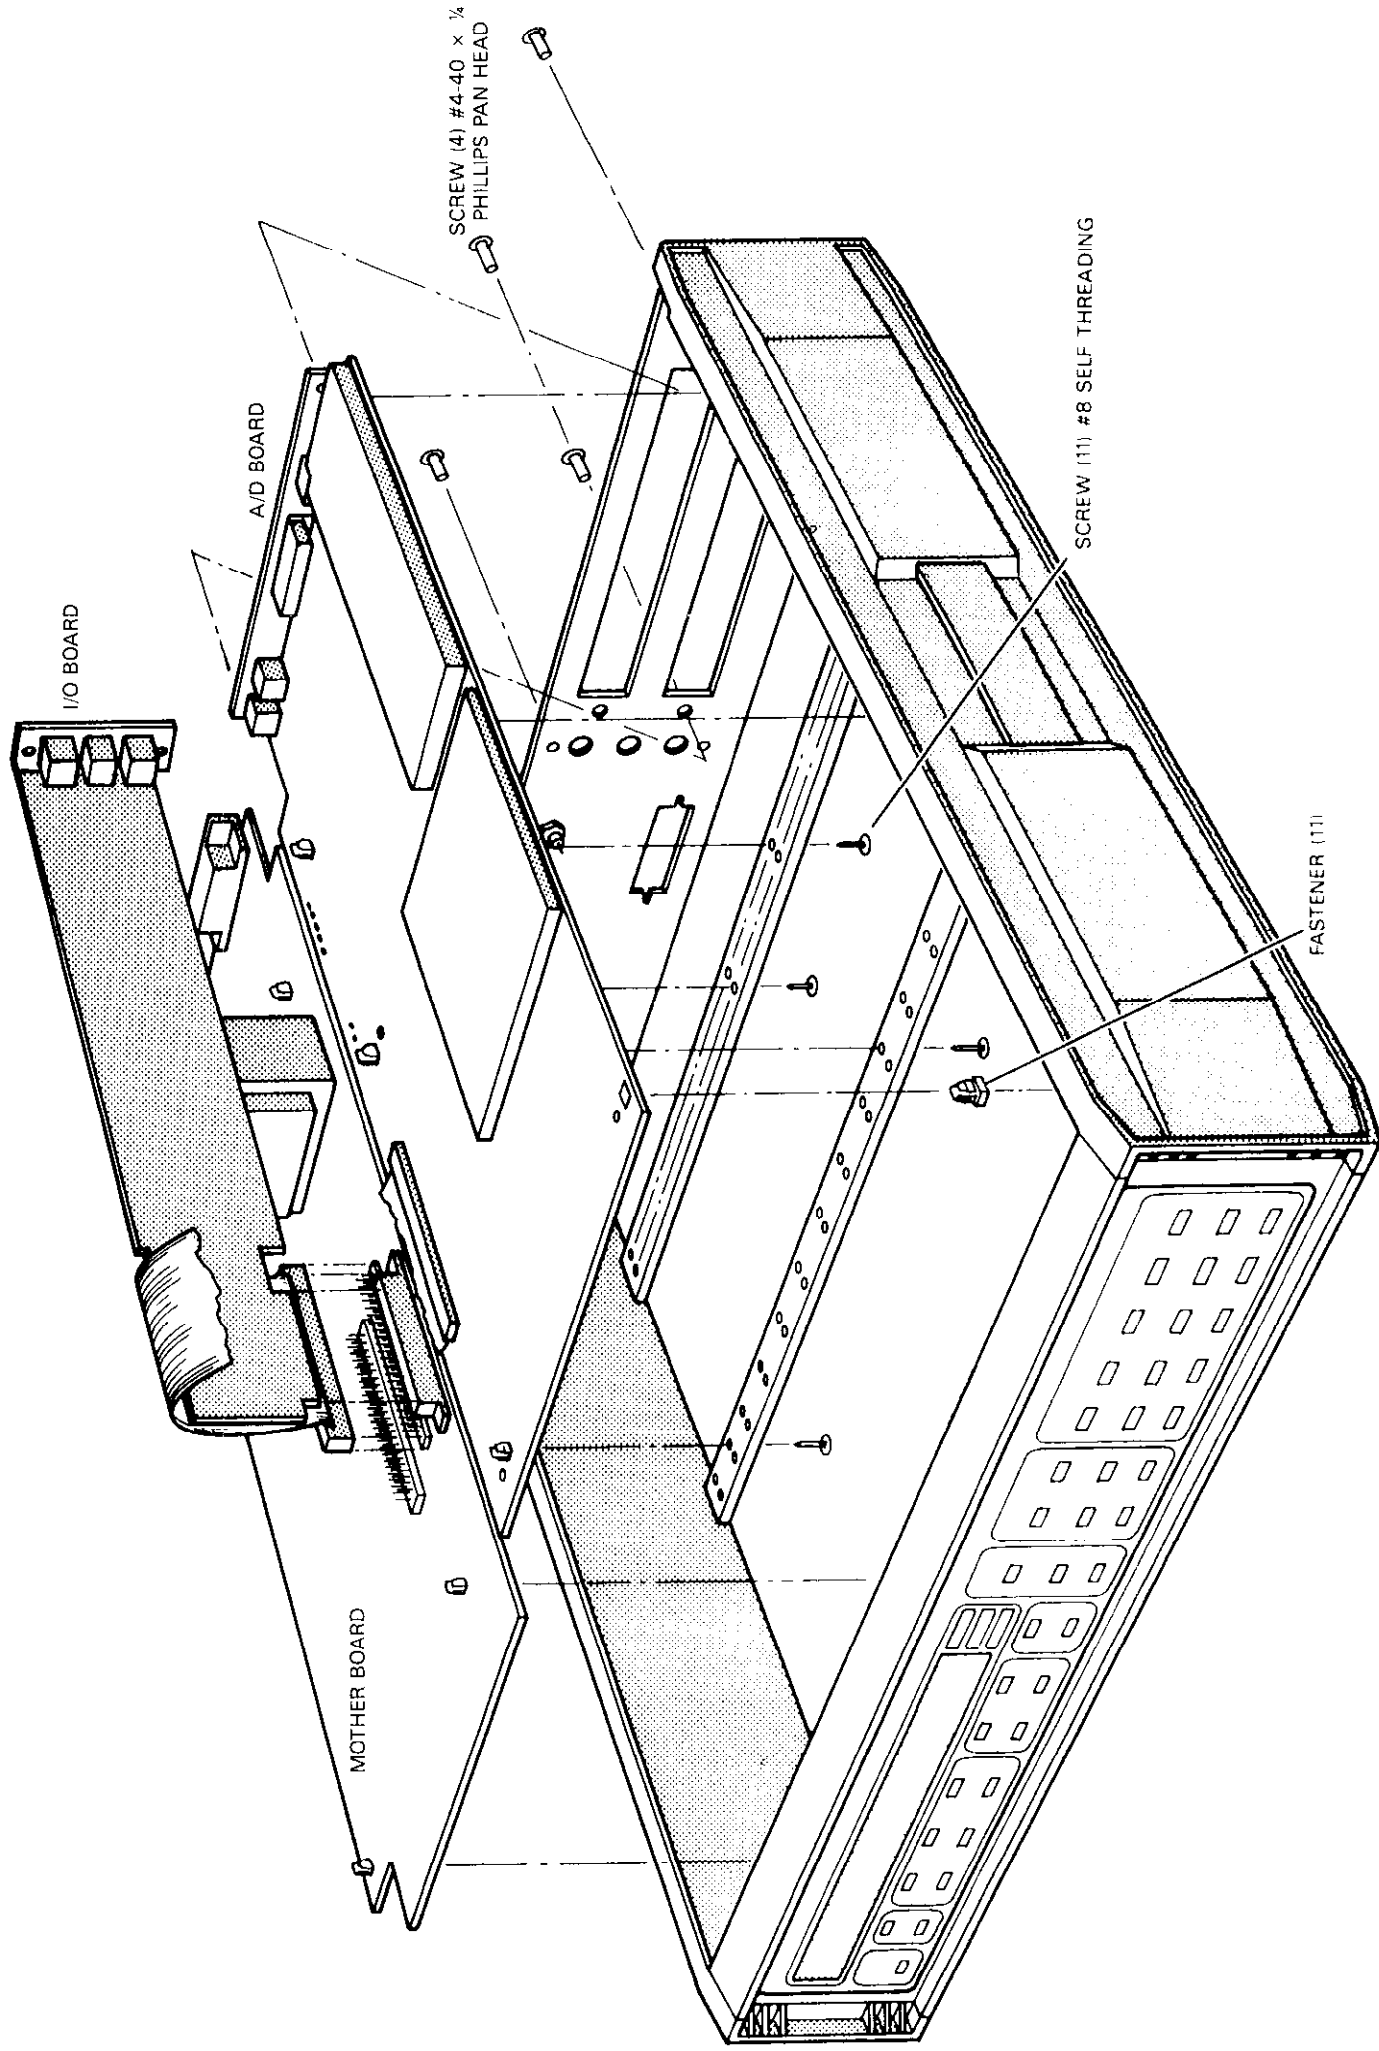
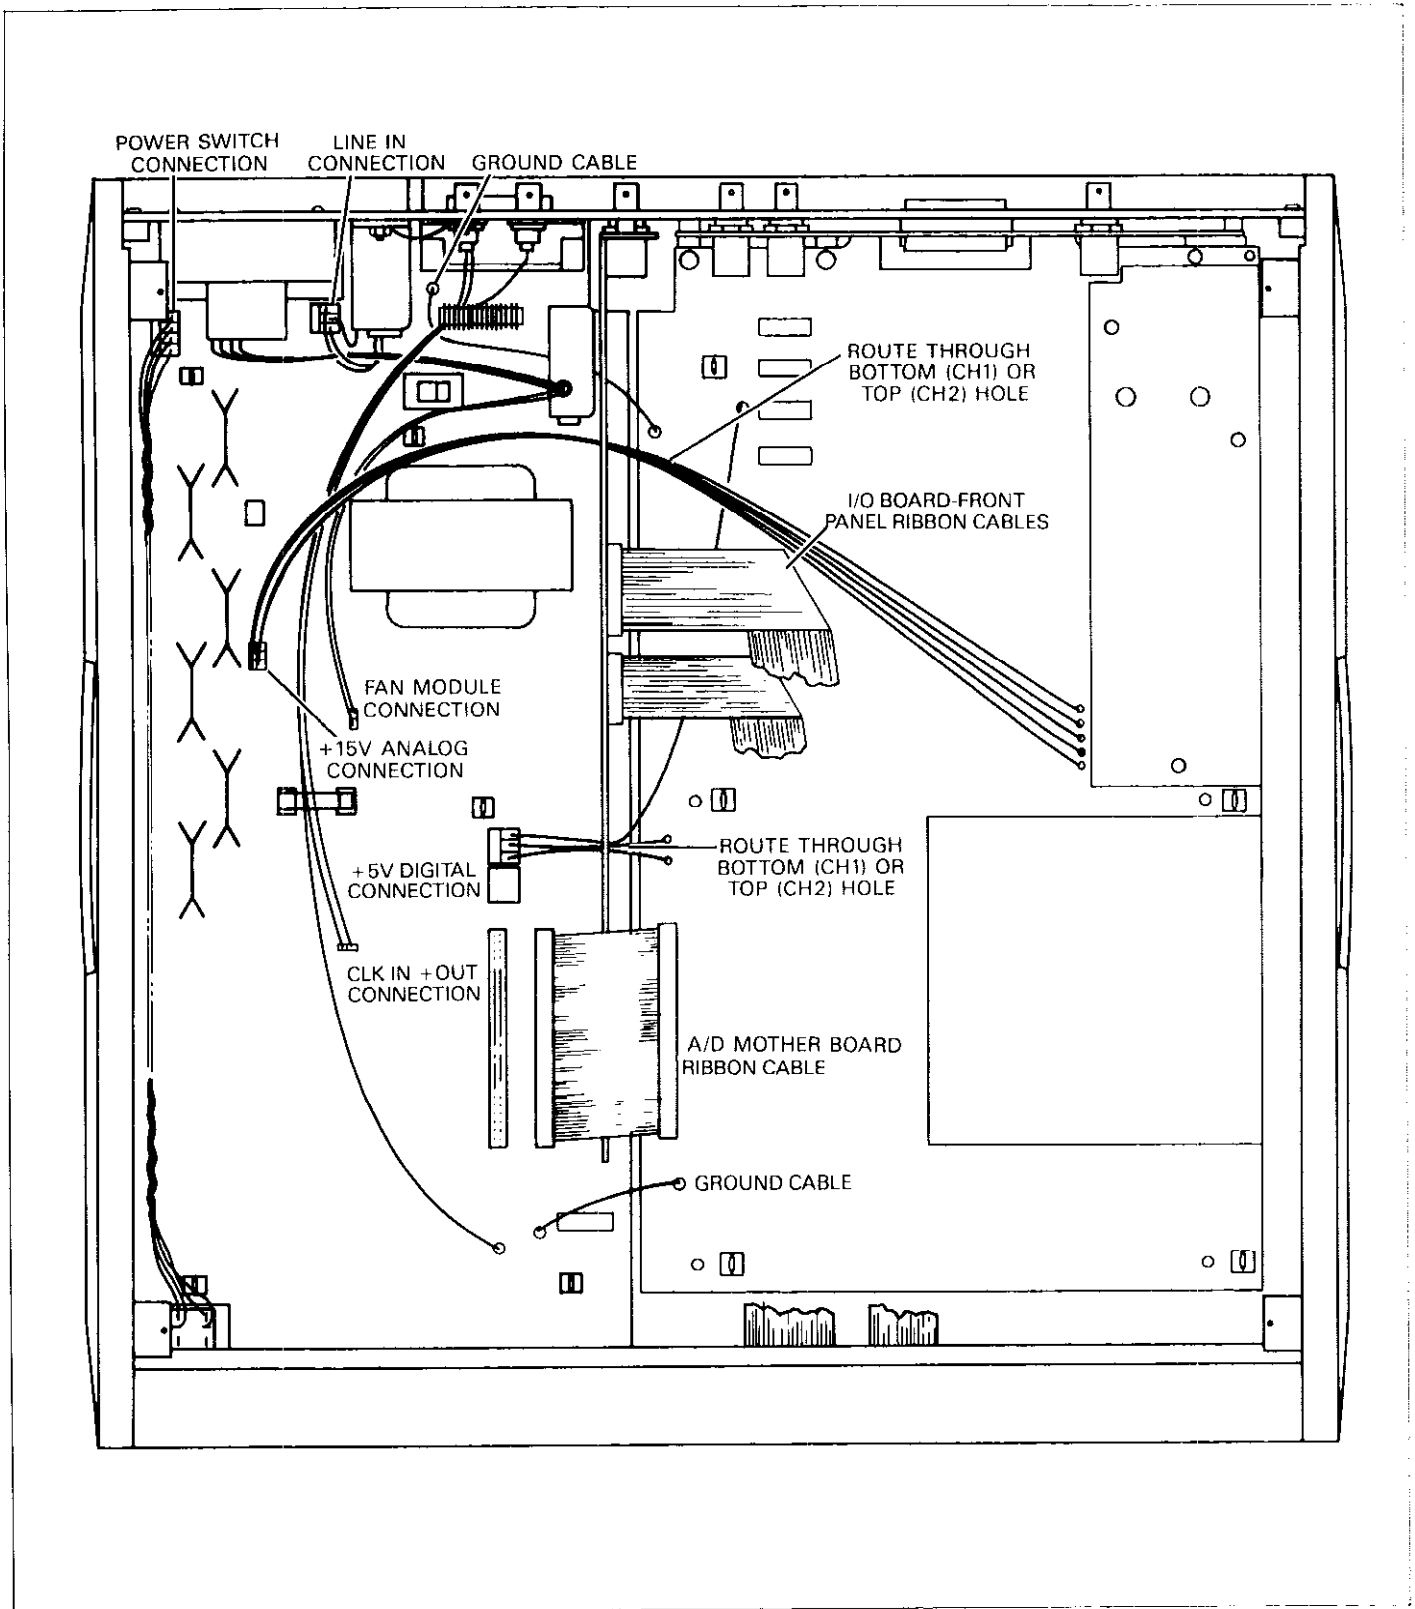

Figure 7-8. Circuit Board Removal
Figure 7-9. Cable Connections
Removal and replacement of the various circuit boards is covered below. The circuit boards should be removed in the order shown, and replaced in reverse order. General circuit board configuration is shown in Figure 7-8, and cable connections are shown in Figure 7-9.
2. Make sure that all connectors are properly replaced. Use the cable diagram in Figure 7-9 as a guide.